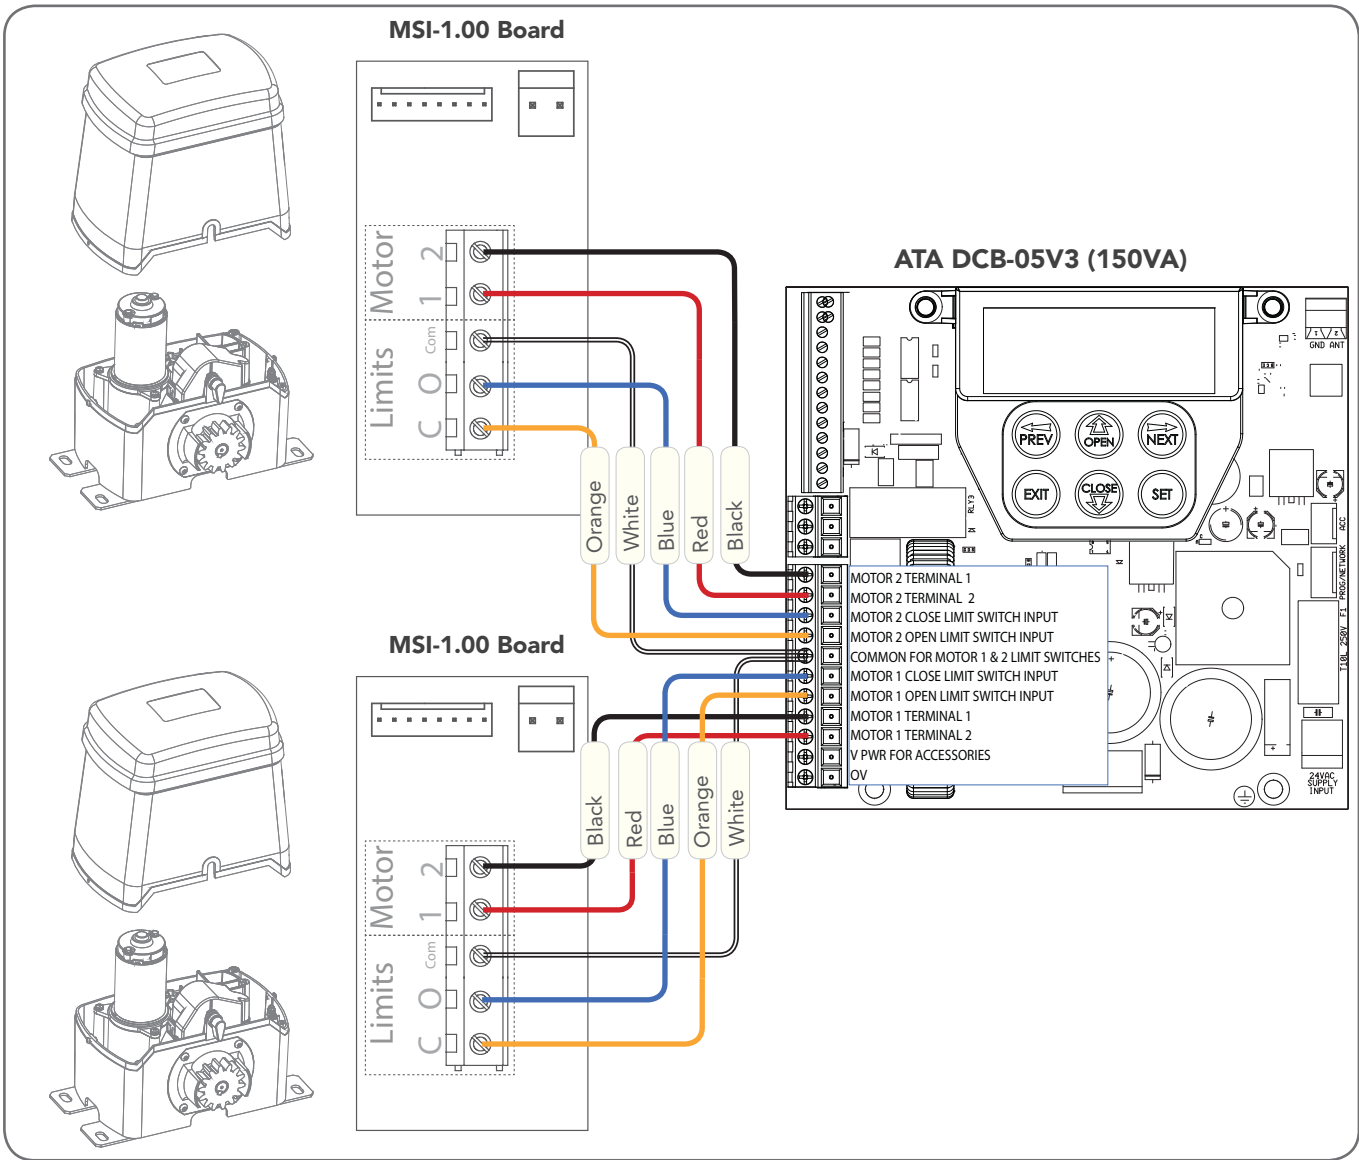

Fig 6.4
This section illustrates how to wire two NeoSlider™ slave openers into a DCB-05V2. (Fig. 6.4)
- a. Switch over the motor wires (marked red and black in Fig 6.4) on the incorrectly behaving openers MSI board.